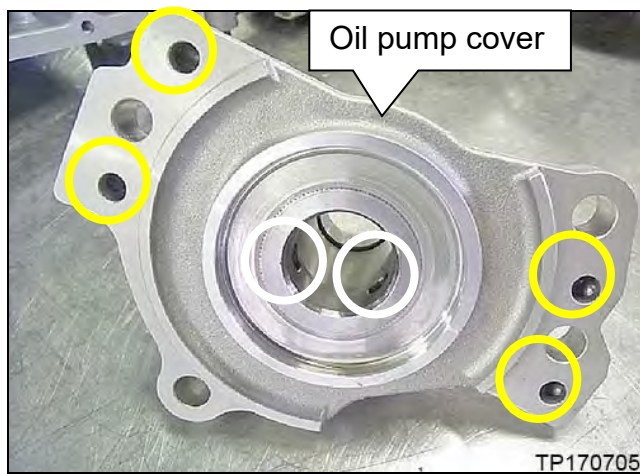

Figure 11L
d. Spray brake cleaner into the oil pump cover oil passages indicated in yellow shown in Figure 11L.
CAUTION: Do not face the passage indicated in white in Figures 11L and 12L while cleaning.